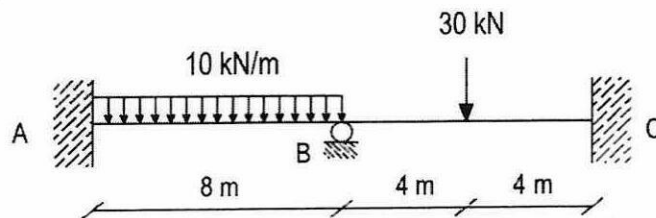

Figure Q4.2 Continuous Beam
- (c) A continuous beam that is built-in at A and C is subjected to loads as shown in **Figure Q4.2**.